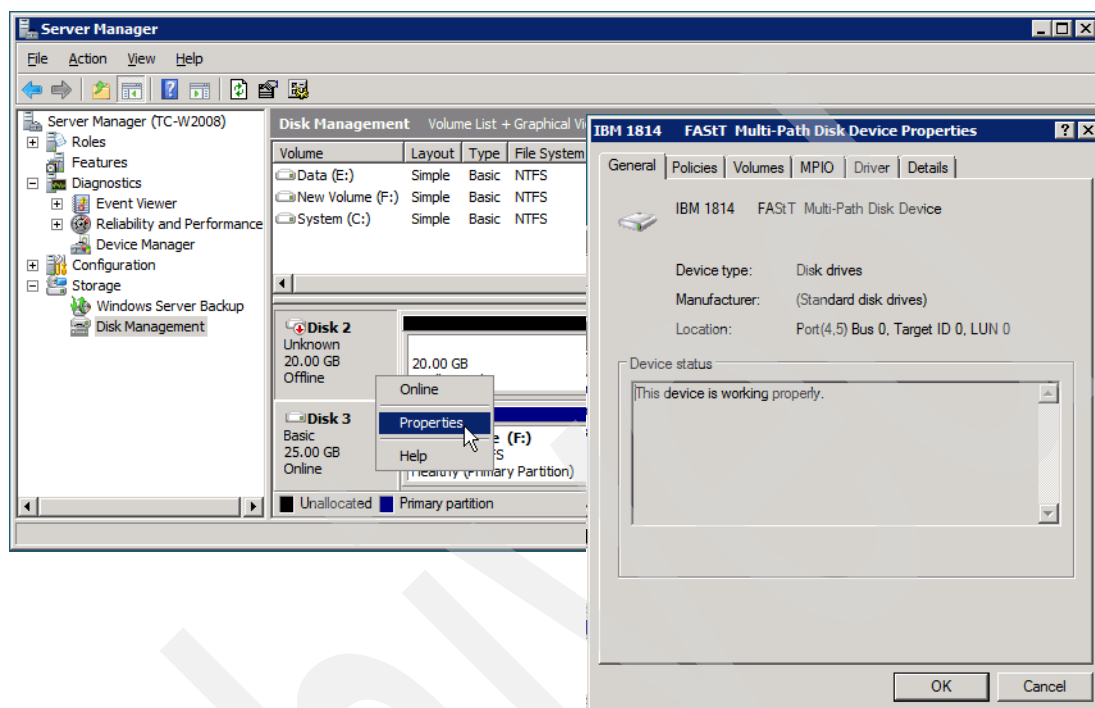

Figure 4-16 Windows Disk Management
4. Finally, use the Windows Disk Management panel to start using your newly mapped DS disks. Before making any changes to your disk structure, make sure to identify your disks correctly. You can get the same information presented previously in Figure 4-15, by right-clicking each of the drives and selecting **Properties**, as shown in Figure 4-16.